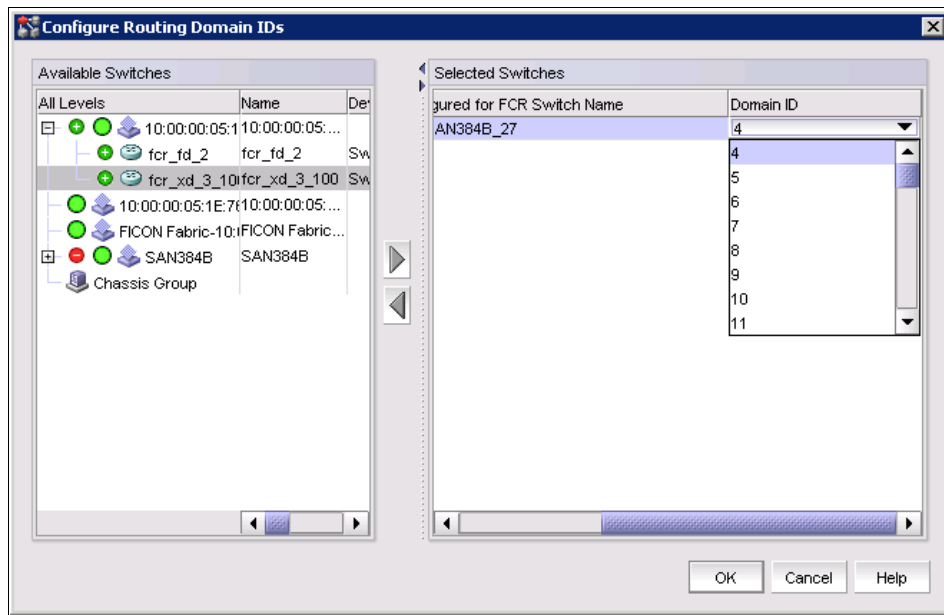

Figure 9-28 Configure Routing Domain ID - Selecting Logical switch
3. Select a logical switch, and click the right arrow to move the switch to the Selected Switches table. See Figure 9-28.